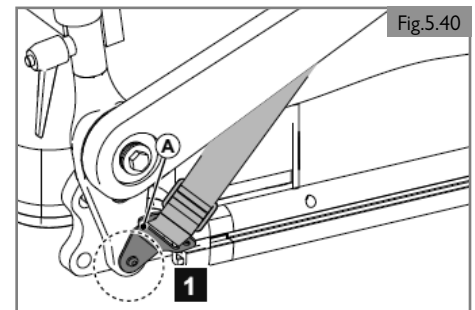

Fig.5.40
1. Attach (A) to the seating frame using a screw on the left and on the right. (Fig. 5.40)